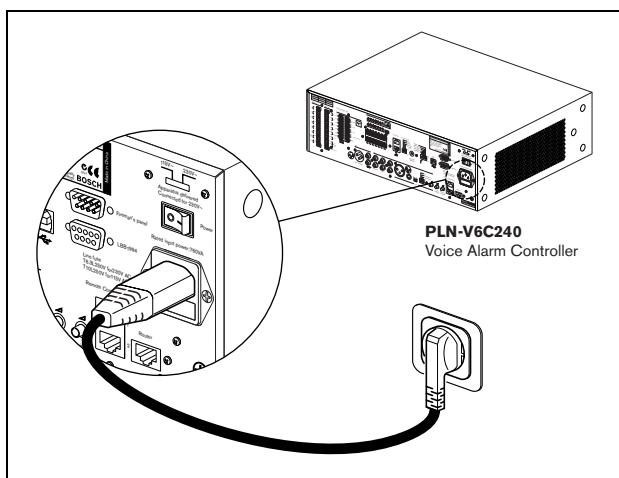

figure 3.17: Connecting the mains cord
- 3 Connect a locally approved mains cord to the voice alarm controller (see figure 3.17).
- 4 Connect the mains cord to a locally approved mains outlet (see figure 3.17).